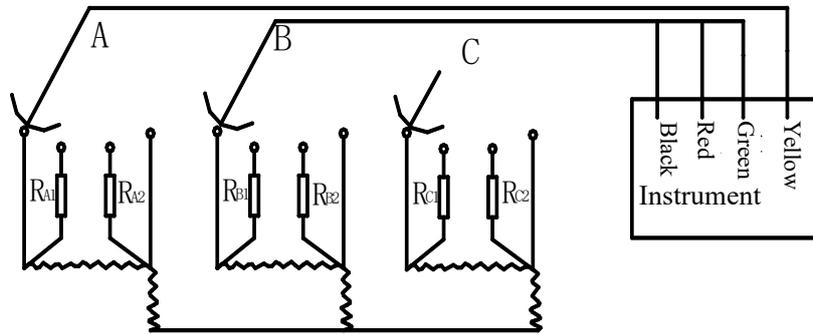

Figure 15 Wiring diagram in case of measuring a single phase
3.1 Schematic of single-phase test wiring (phases A and B) is shown in Figure 15.